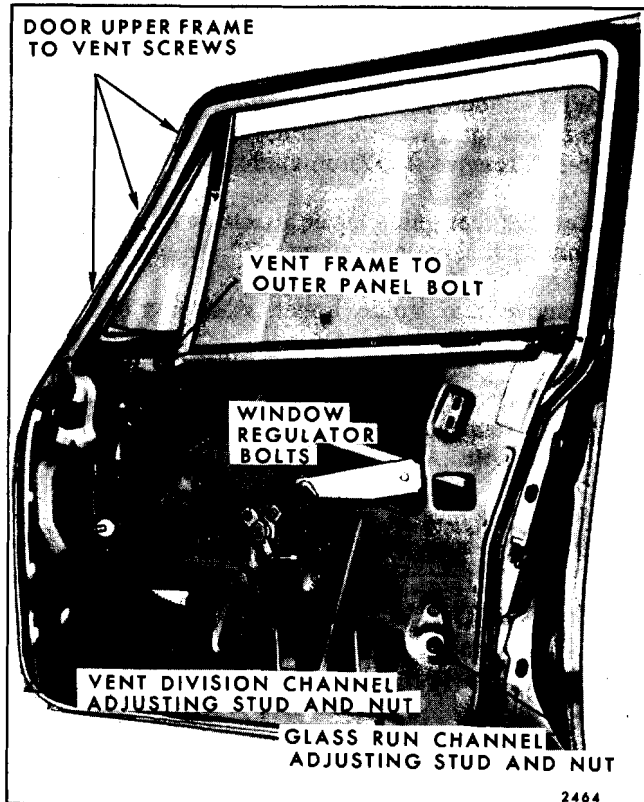

Fig. 6-95-Door Ventilator and Regulator Attachment - "A" Styles
- Remove ventilator division channel lower adjusting stud and nut and window regulator attaching bolts (Figure 6-95).